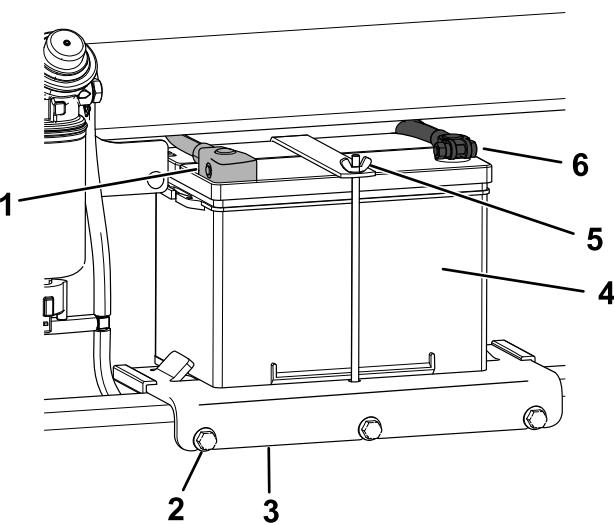

Figure 56
6. Disconnect the positive (red) cable from the battery post (Figure 56). Retain the fasteners.
7. Loosen the 3 bolts securing the battery tray and remove the tray with the battery (Figure 56).
4. Disconnect the negative (black) ground cable from the battery post (Figure 56). Retain the fasteners.
- Place the battery on the battery tray and secure it with the wing nut and rod (Figure 56).
- Install the battery tray to the machine and secure with the 3 bolts (Figure 56). Torque the bolts to 41 N·m (30 ft-lb).
- Using the fasteners previously removed, install the positive (red) battery cable to the positive (+) battery terminal (Figure 56).
- Using the fasteners previously removed, install the negative (black) battery cable to the negative (-) battery terminal (Figure 56).